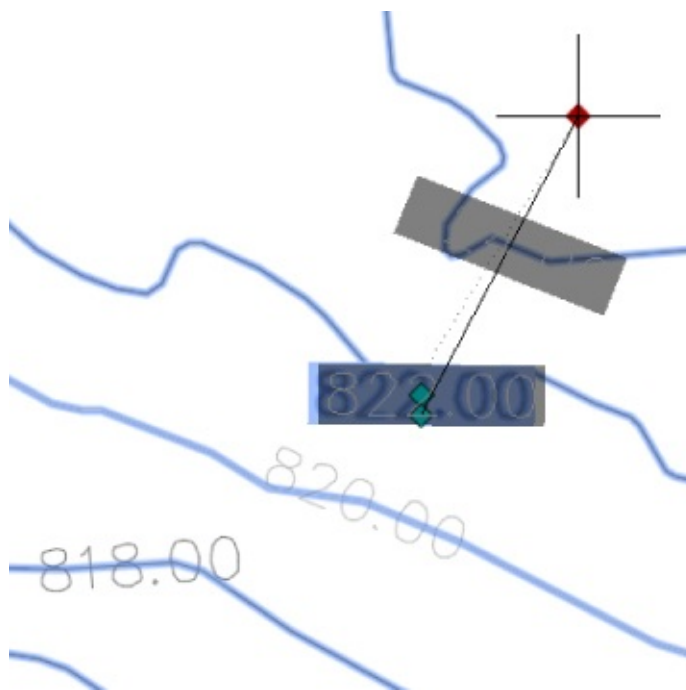

Figure 4.51 Grip-editing a contour label line
16. Grab the northernmost grip and drag across an adjacent contour northeast of the original label, as shown in Figure 4.51.